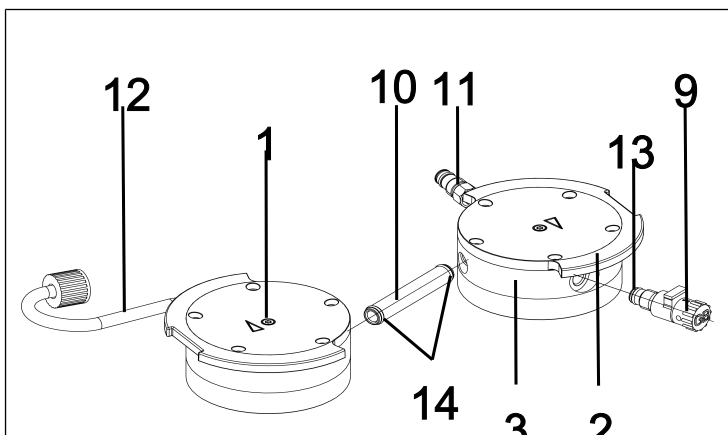

Fig.15: Change O-rings
2. Pull the connection tube (10/ Fig. 15) out of the head plate (3).
**i** The two hose connections (11) and (12) remain mounted in the head plates.
3. Replace the two O-rings (14) on the connection tube (10/ Fig. 15).
6. Unscrew the gas ballast (**9/Fig. 15**) from the head plate (**3**).
7. Replace the O-ring (**13**) on the gas ballast (**9/Fig. 15**).
8. Screw the gas ballast (**9/Fig. 15**) into the corresponding head plate (**3**) as far as it will go. Then turn it back again until the surface is oriented upwards.
7. Insert the connection tube (**10/Fig. 15**) back into both head plates (**3**).